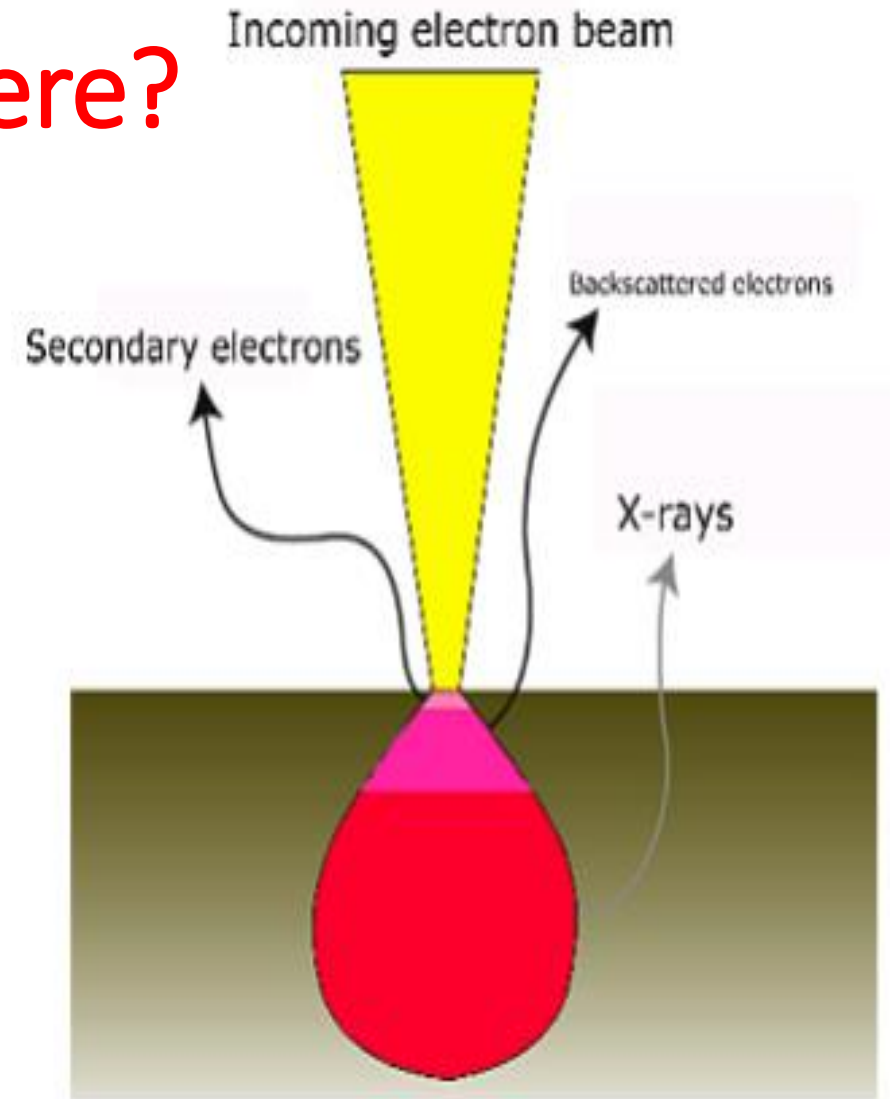

Figure 2: Different types of signals used by a SEM and the area from which they originate
- BSE come from deeper regions of the sample (Figure 2), while SE originate from surface regions. Therefore, BSE and SE carry different types of information. BSE images show high sensitivity to differences in atomic number: the higher the atomic number, the brighter the material appears in the image.